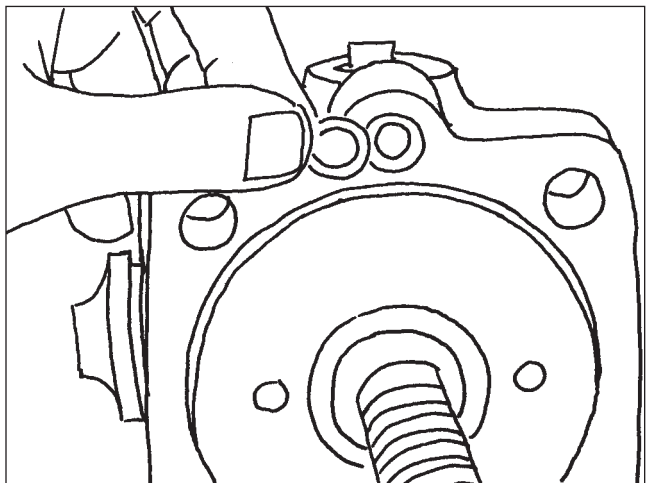

Figure 134
12. Install a new tetra seal on the bearing cap assembly and attach the bearing cap to the housing (Figure 134).